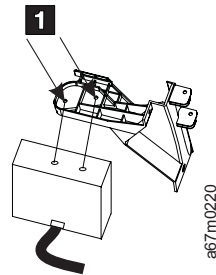

Figure 92. Attaching the Bar Code Scanner
- ___ 3. Attach the bar code scanner to the bracket using the two screws that came with the bar code scanner. See Figure 92.